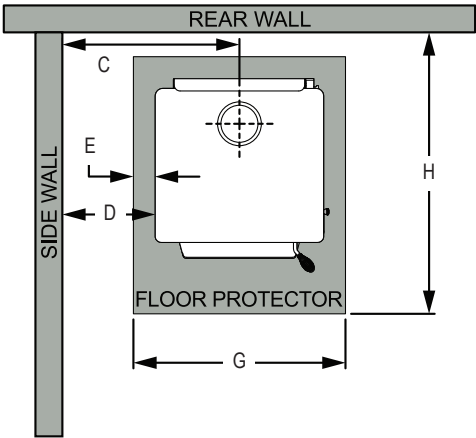

Figure 9.1
- The minimum Floor Protector sizes are specified in the clearance chart, see Figures 9.1 and 9.2 on page 9.
1. If a separate floor protector is being used position now. Place the firebox on the floor protector to suit the minimum installation clearances (**Figures 9.1 and 9.2 on page 9**).